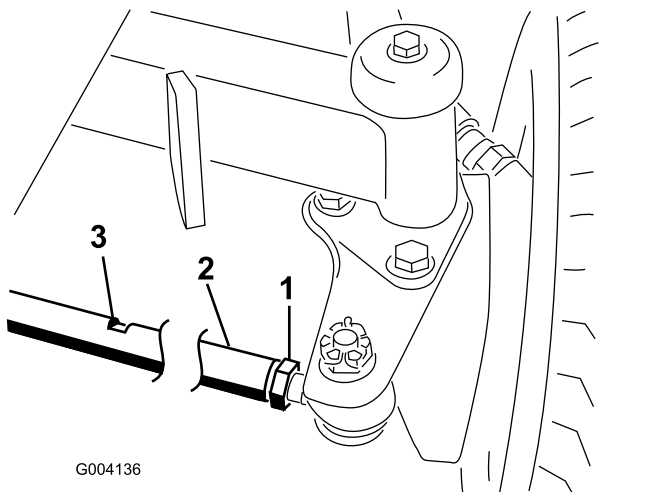

Figure 140
1. Loosen the jam nut on each end of the tie rod (Figure 140).